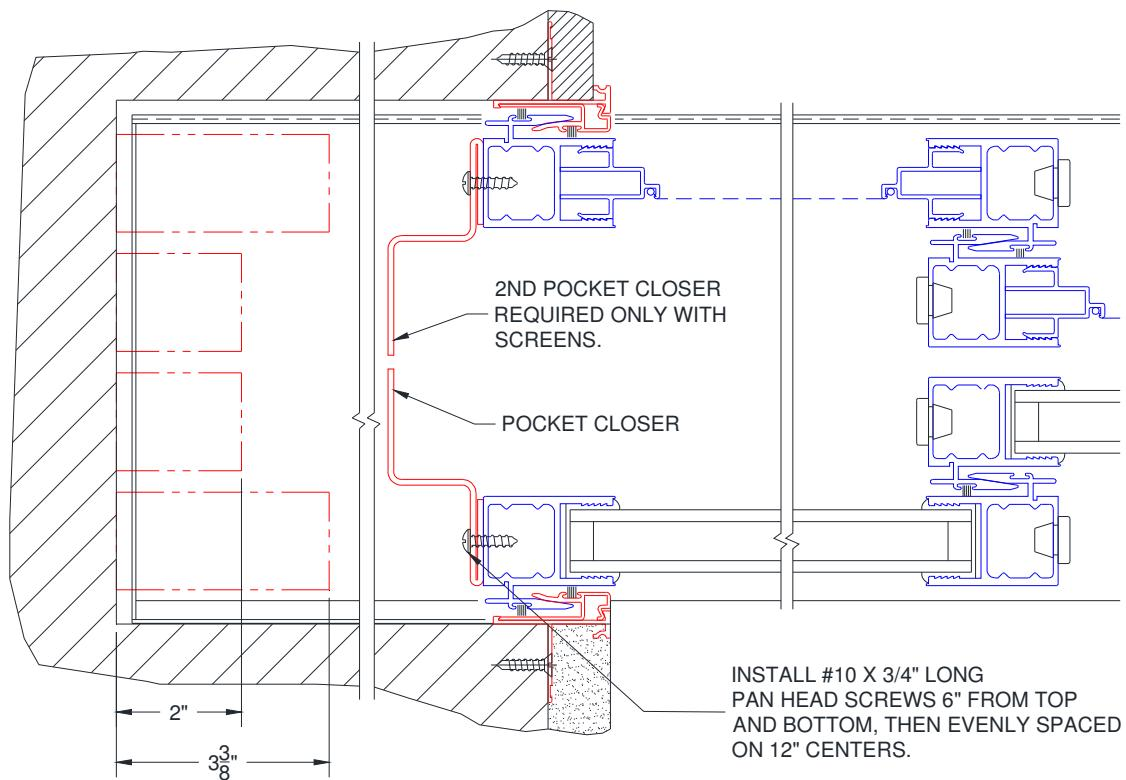

Figure 13:
2. Holes to be located 6" from top and bottom of pocket closer, then evenly spaced on 12" centers. Assemble pocket closer to back side of interlocker with #10 x $\frac{3}{4}$ " long pan head screws (Figure 13).